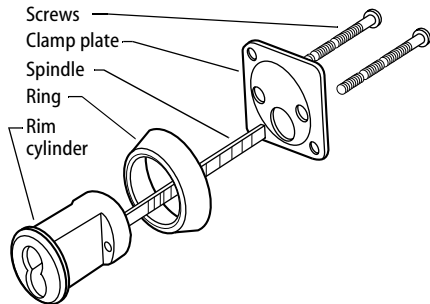

Figure 1 Securing the rim cylinder
- 1 Insert the BEST cylinder from the outside of the door and secure it in place with the clamp plate. See Figure 1.